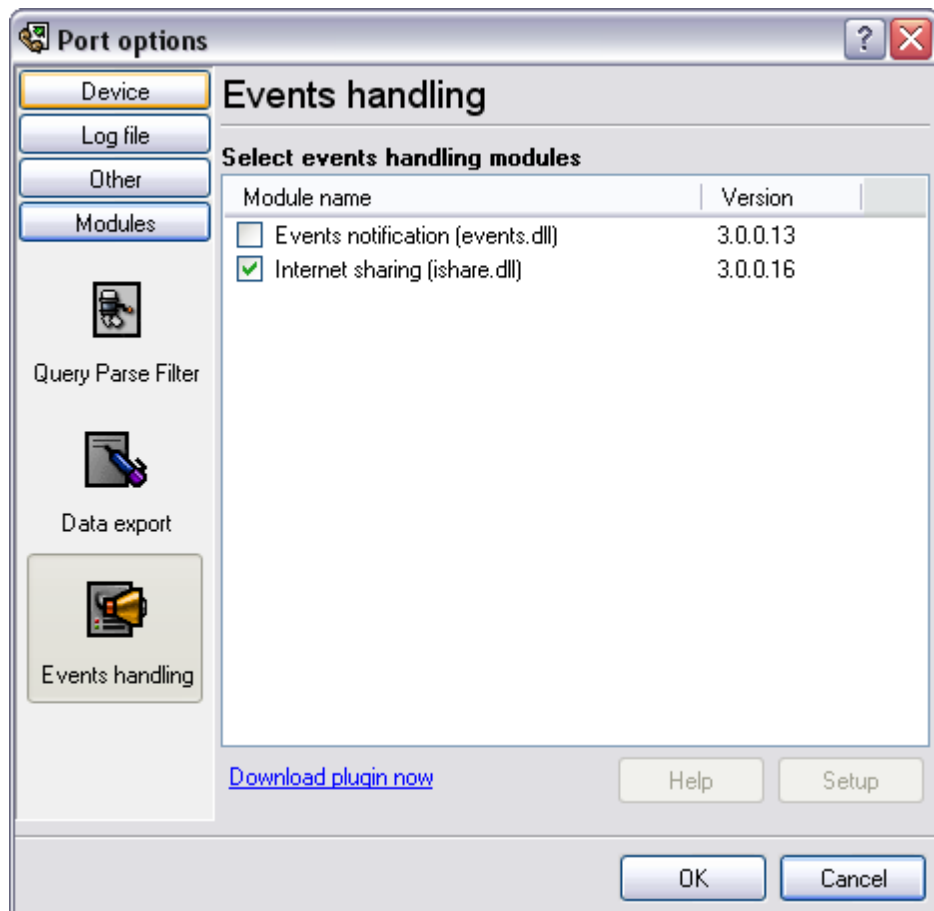

Fig.12 Events handling modules
- **Events handling** (fig.12) - an external plug-ins used to handle events generated by the Advanced Serial Data Logger software. Once an event occurs (for example: "Data source is opened" or "Configuration changed"), the plug-in creates a text message using the specified template and sends a notification, do some actions, such as execute programs, scripts and etc. The form of the notification or actions depends on the plug-in settings.